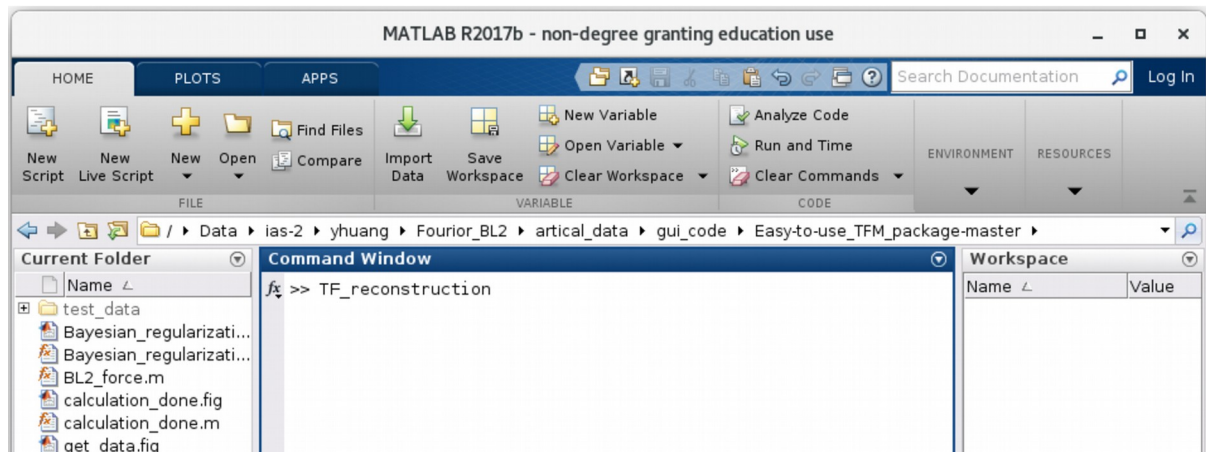
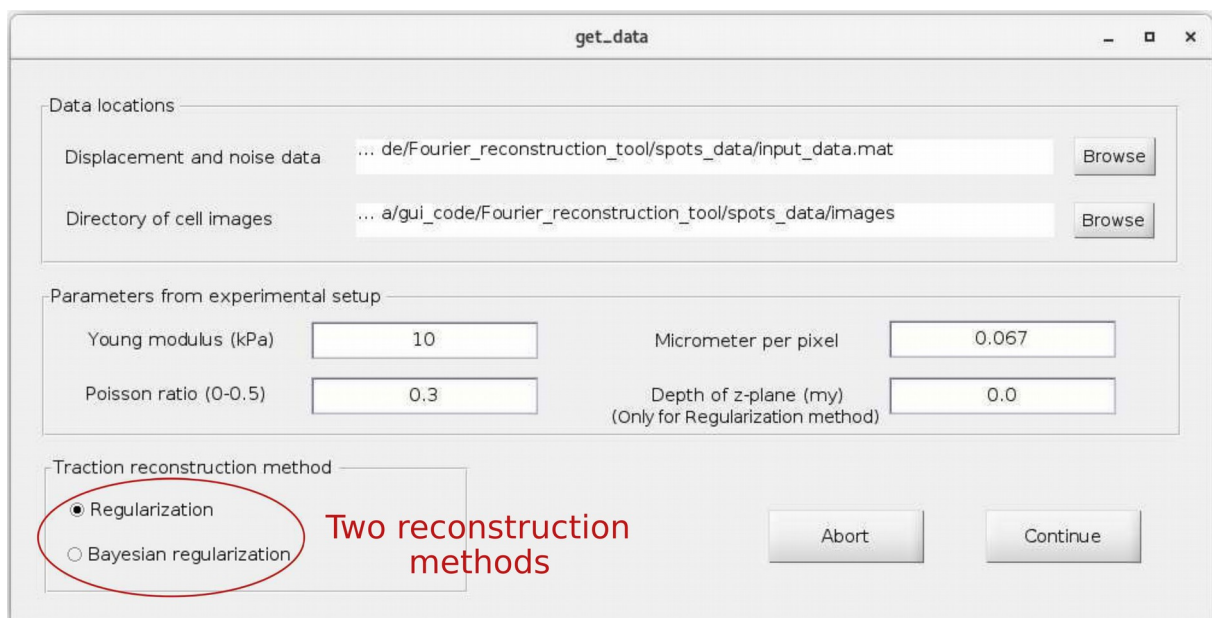
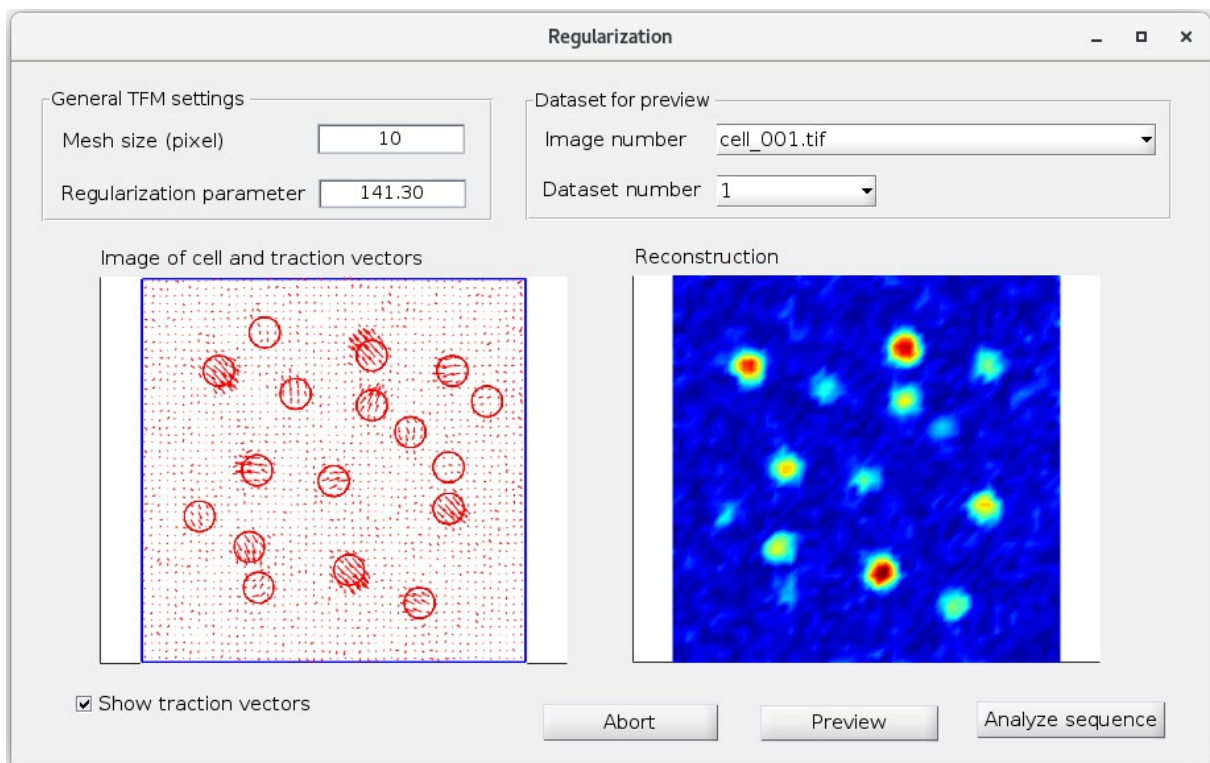
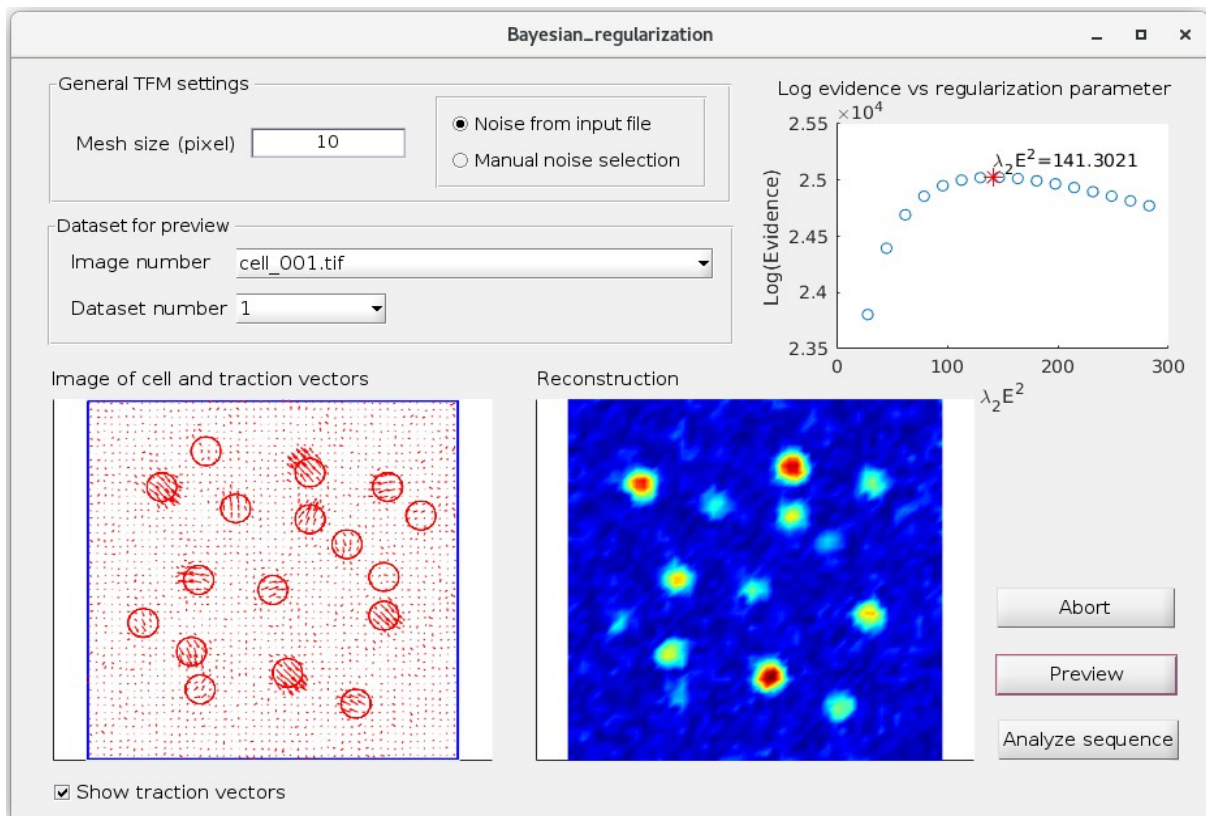

Figure 3. Starting the TFM software.
Figure 4. Setting the input data.
Figure 6. Calculating traction forces in the Regularization menu.
Figure 7. Calculating traction forces in the Bayesian regularization menu.
into the command line as shown in Figure 3. Next, a window titled 'get_data' will appear and allow you to enter general input data as shown in Figure 4.
If “Regularization” is selected with the option buttons shown in Figure 4, the next window that appears after clicking “Continue” allows to one to perform traction calculations with the Regularized Fourier transform traction cytometry. The window is shown in Figure 6. The following inputs are required:
If “Bayesian regularization” is selected in the ‘get_data’ window as shown in Figure 4, the next window that appears after clicking “Continue” allows to one to perform traction calculations with Bayesian Fourier transform traction cytometry. With this method, the optimal smoothing regularization parameter $\lambda_2 E^2$ is determined automatically by maximizing the evidence. The numerically calculated evidence function and the optimal regularization parameter can be displayed together with a preview of the traction forces, see Figure 7. For this method, an estimate of the variance of the noise in the displacement data is required. The technical details of the procedure are described in References [1-2].
As illustrated in Figure 7, the following inputs are required:
- If your input data contains a sample of the displacement noise, you can select the radio button option ‘Noise from the input file’ as shown in Figure 7.